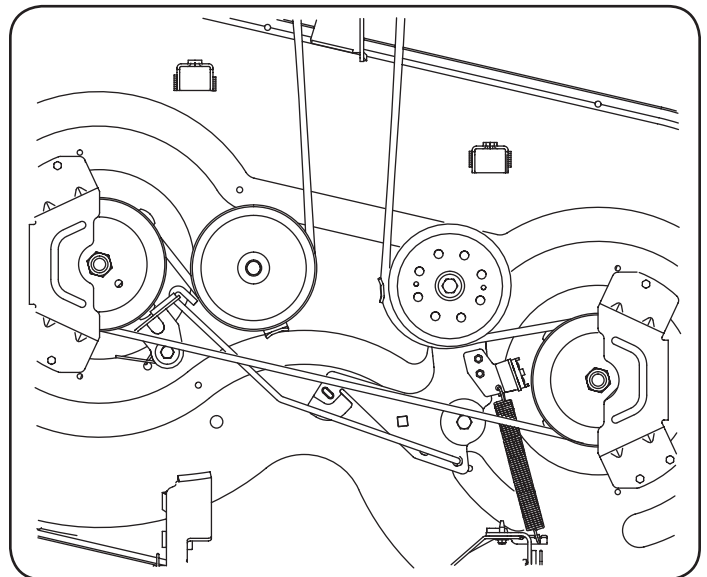
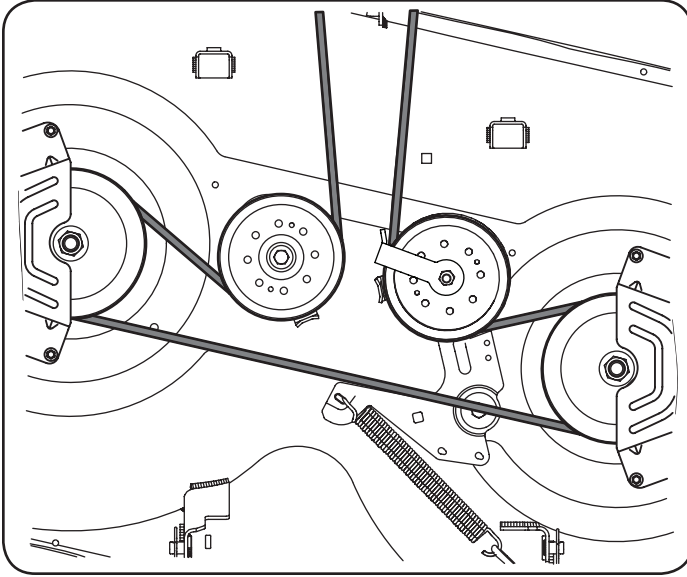
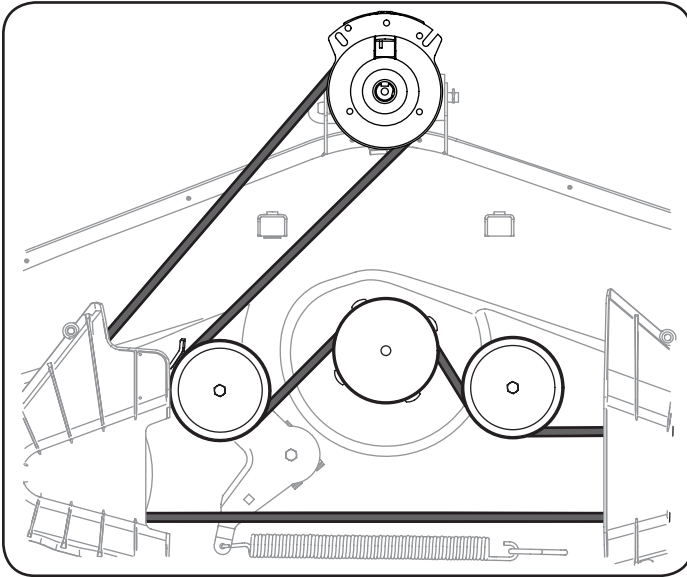

Figure 36
Figure 37
Figure 38
- Route the new belt as shown in Figure 36 for 42" Decks, Figure 37 for 46" Decks and Figure 38 for 50" and 54" Decks.